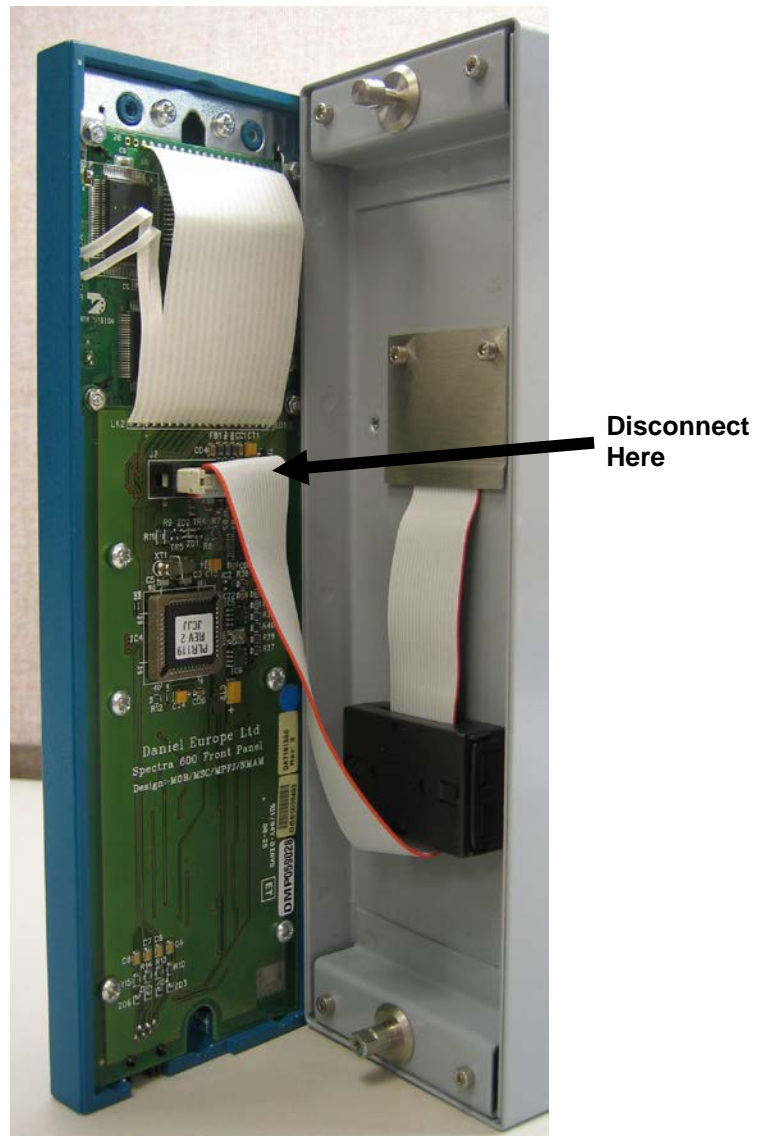

Figure 2-4. Remove Connector
4. Disconnect the ribbon cable from the back of the front panel at the blue connector (refer to *Figure 2-4*). Observe the orientation of the connector with its mating keyway. You must correctly re-insert the ribbon cable at the end of the installation process.